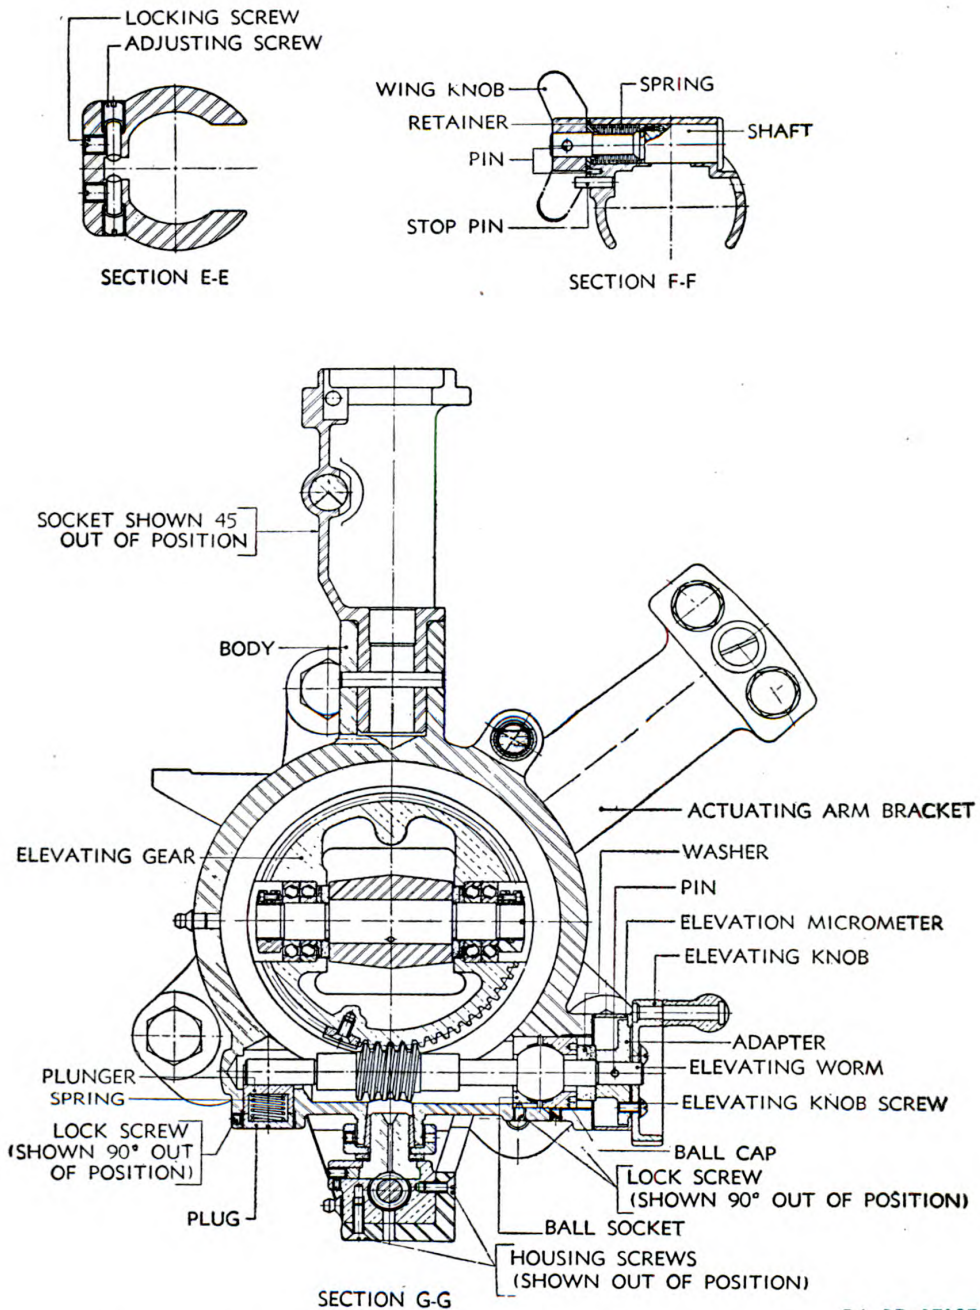

FIGURE 5.—Telescope mount M25—sections E-E, F-F, G-G.
*c.* Rotate the telescope retaining shaft (fig. 5, sec. F-F). Note the torsion in the torsion spring.